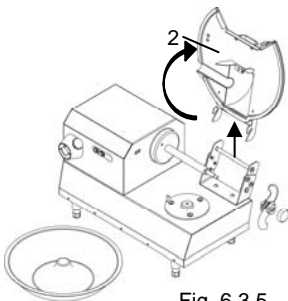

Fig. 6.3.5
- The surface is now smooth and easy to clean. (Fig. 6.3.5).